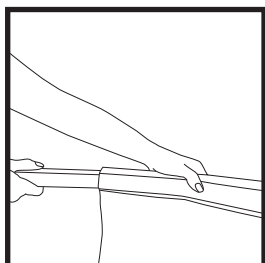

Fig. 5
6. Insert the bar in the banner tunnel (Fig. 5).